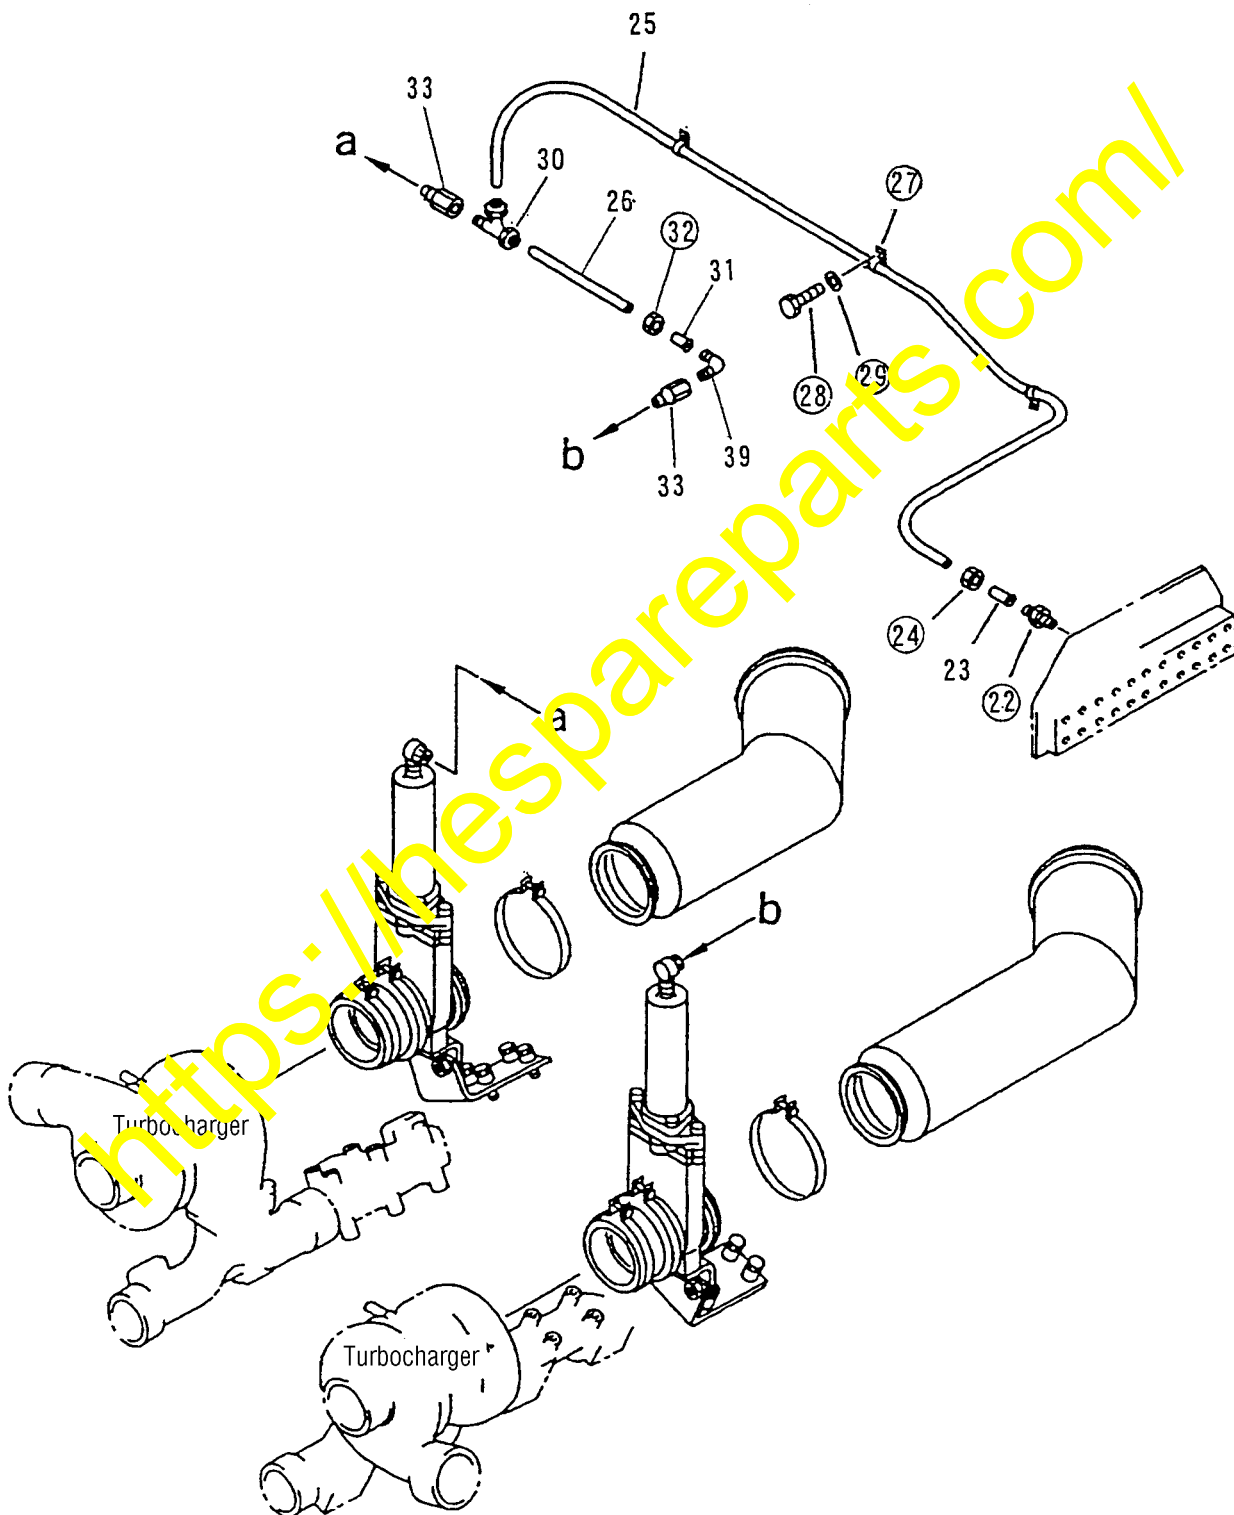
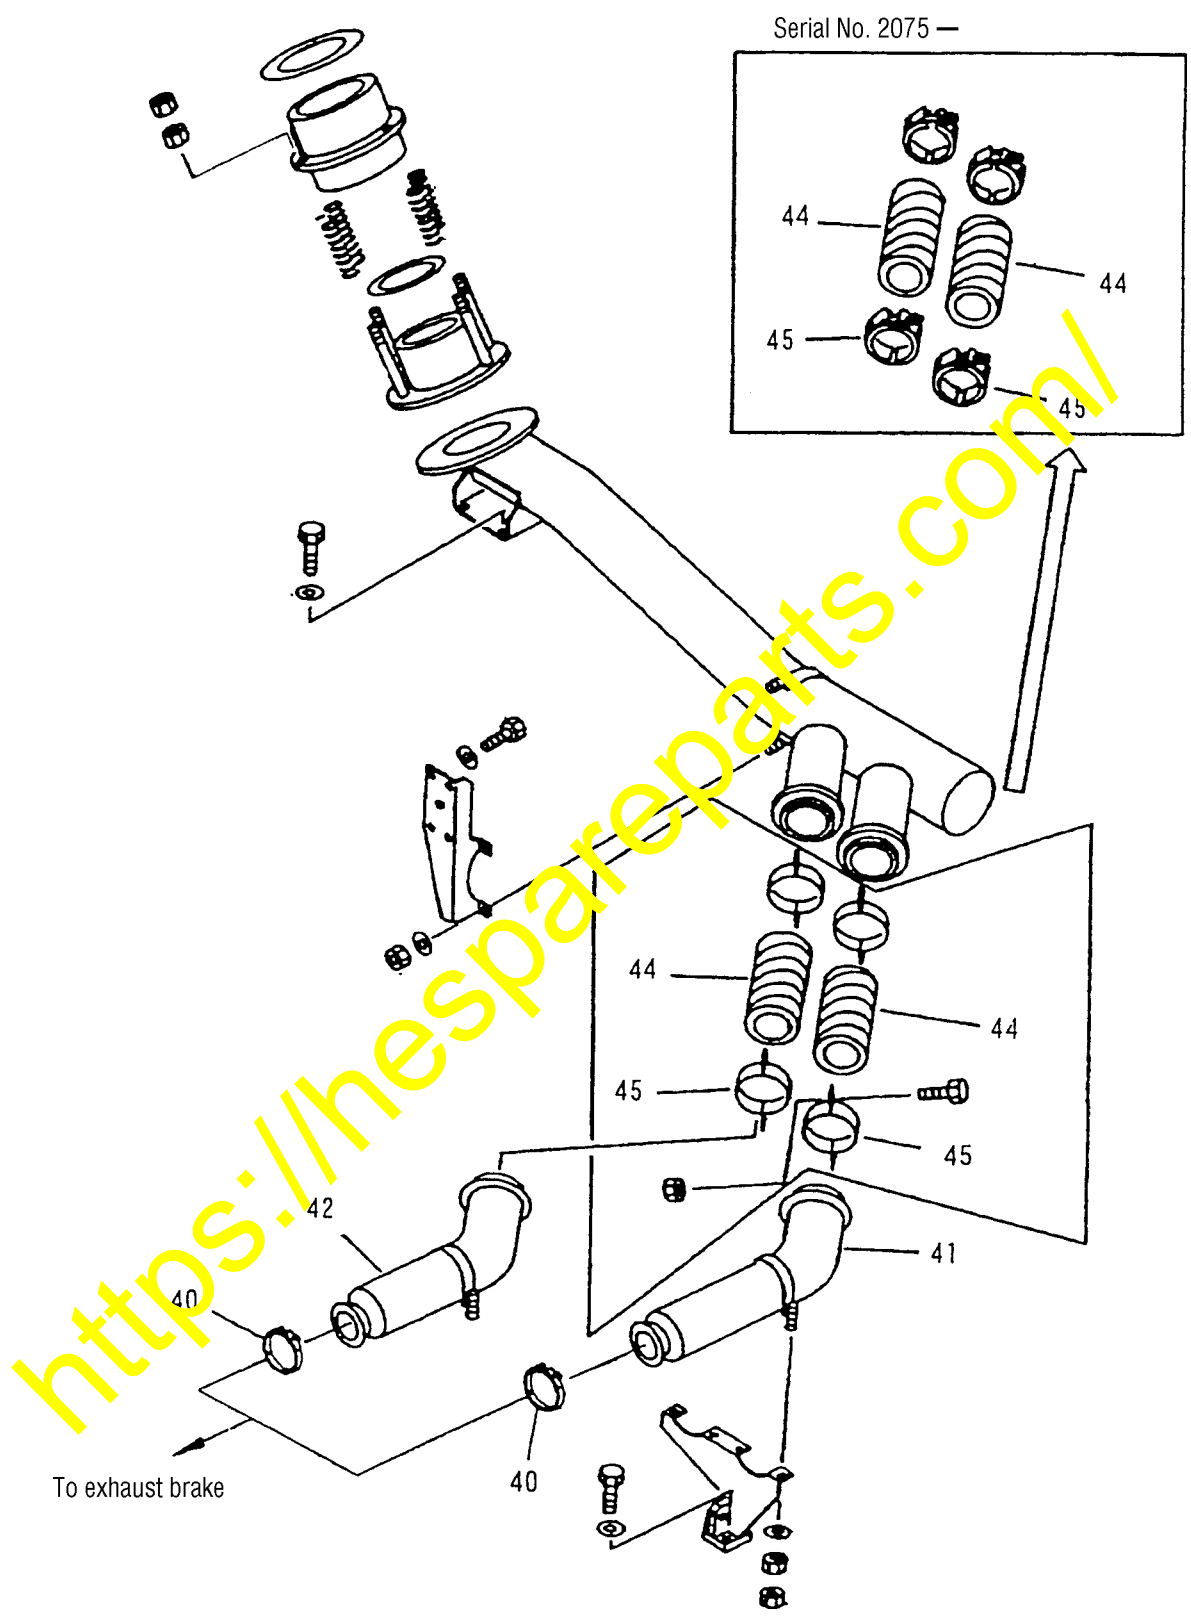

Fig. 5 Schematic diagram for the piping parts which need to be removed for this modification (Air pipings)
Fig. 6 Schematic diagram for the piping parts which need to be removed for this modification (Exhaust pipings)
- (2) Removing the air pipings and the exhaust pipings for the exhaust brake (Refer to Fig. 5 and Fig. 6.)